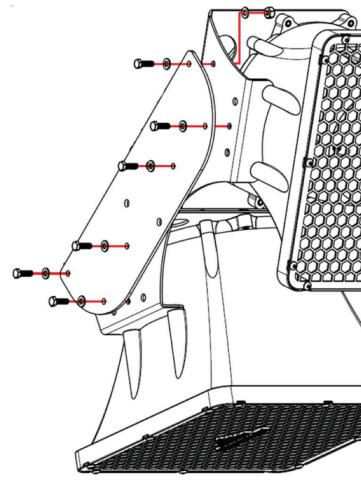

Figure 5: Attaching a Dual Mount Plate
1) To mount two TCPA-10 systems to the same wall mounting bracket, use an optional Dual Unit Mounting Adapter. Attach the dual mount plate to the TCPA-10 mounting brackets with the hardware provided in the kit (Figure 5).